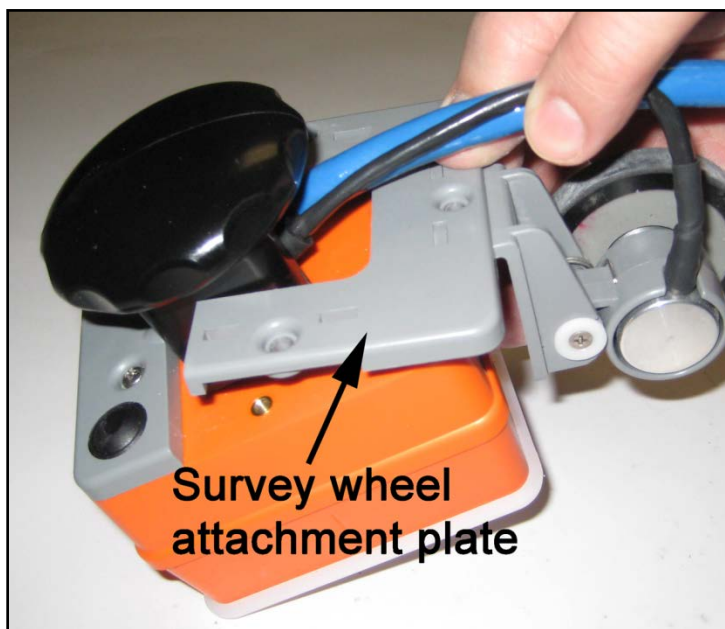

Figure 3: Remove attachment plate.
- 2** Lift the gray, plastic survey wheel attachment plate off of the antenna and set aside (Figure 3).